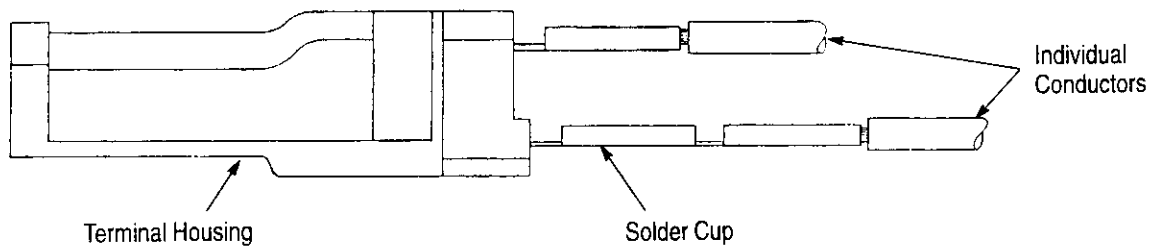

Figure 3
7. Lay the stripped section into the solder cups on the terminals, see Figure 3.